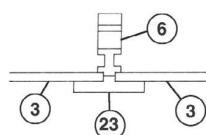
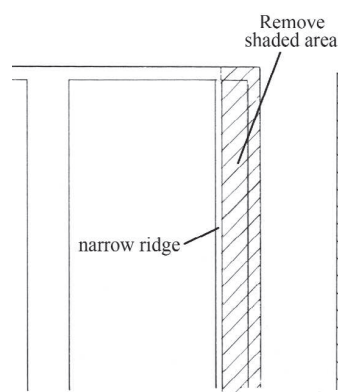

Fig. 2
Fig.3
The building is designed to be made wider by combining two or more kits. The end wall can be expanded by gluing the pilaster (23) between two of the wall (3) sections and also gluing the support column (6) to the back of the walls (see Fig. 1). To accommodate the new wall size, the base must be modified. To splice two buildings together, you must cut off one side of each base (to the **outside** of the narrow ridge found underneath the base) and then glue the modified sides of the bases together (see Fig. 2). For more than two buildings, the middle base(s) must have both sides removed (see Fig. 3) in addition to having one side removed on the end bases. Then glue the modified sides together.